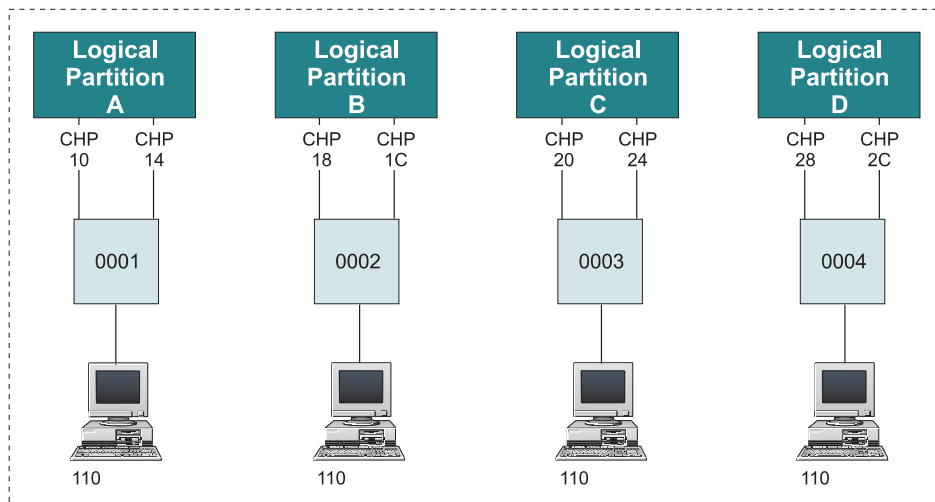

Figure 21. Duplicate device numbers for console
If 8 or less channels attach to the device, this method of defining the IOCP input provides greater flexibility because it allows you to move CHPIDs from one LP to another and eliminates possible conflicts (see Figure 21 on page 62).
Figure 21 shows another example of a logical partition configuration in which the device number for a console (110) is duplicated for all four logical partitions.